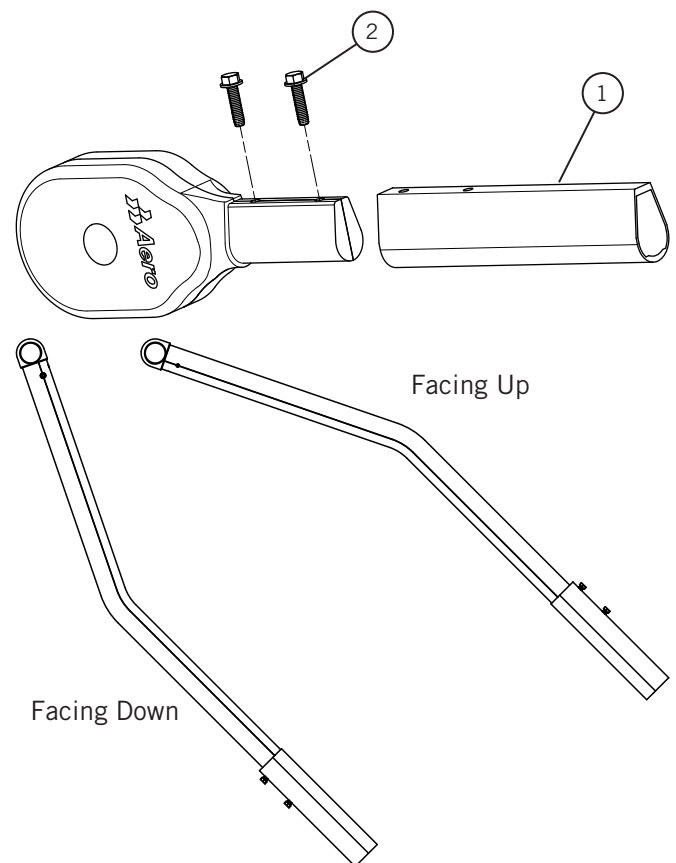

Figure 30-1
- 1) **Figure 30-1.** Slide swing arm lower aluminum (1) onto powerpack spring assembly.
- 2) **Figure 30-1.** Secure with 3/8-16 x 2 HWH type F (2).